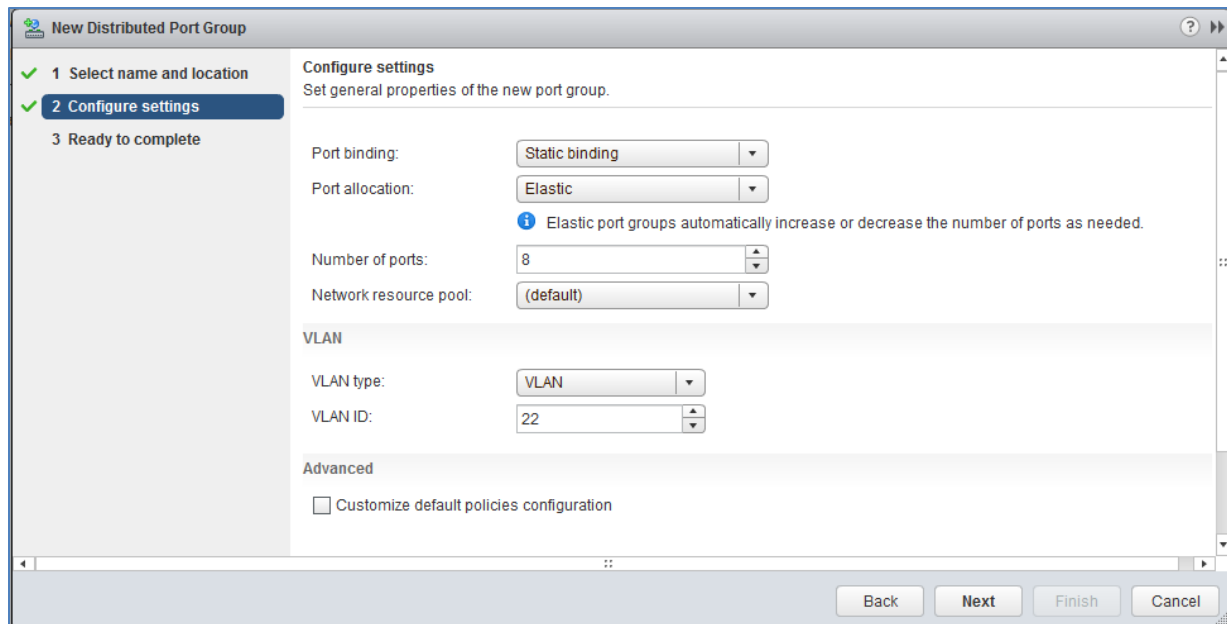

Figure 42 Distributed port group settings page – vMotion port group
4. On the **Configure settings** page, next to **VLAN type**, select **VLAN**. Set the **VLAN ID** to **22** for the vMotion port group. Leave other values at their defaults as shown in Figure 42.